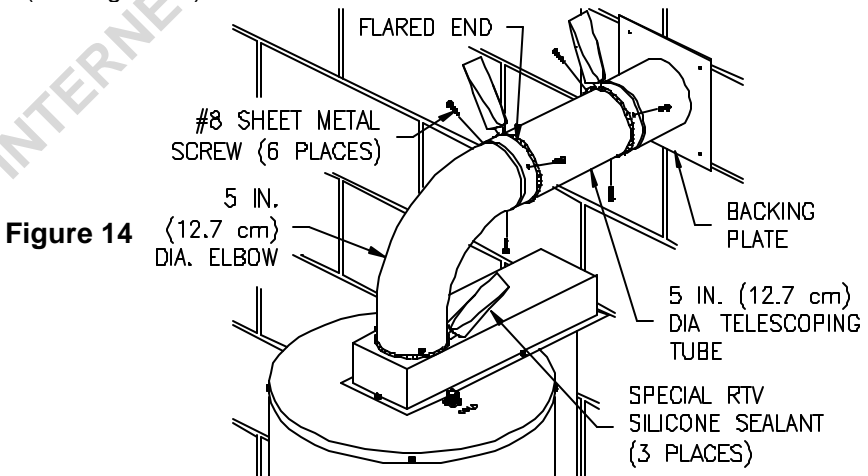

Figure 14
11. From inside the building, slide the backing plate over the five (5) inch (12.7 cm) diameter telescopic tube until it is flush with the wall. Adjust the length of the five (5) inch (12.7 cm) diameter telescopic tube and insert the end into the flared end of the five (5) inch (12.7 cm) diameter elbow one (1) inch (2.5 cm) (or until seated). Drill three (3) 1/8 inch diameter holes, 120° apart, through the five (5) inch (12.7 cm) diameter elbow into the five (5) inch (12.7 cm) diameter telescopic tube and through the tubes where the small and large sections overlap. Fasten with three (3) #8 sheet metal screws (supplied). Using the supplied special RTV silicone sealant, apply a sufficient amount to seal all joints (See Figure 14).